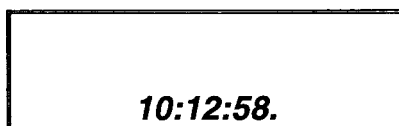

Fig 4.5 Setting the time
- (4) Press **YES**, and the time is displayed in hours, minutes and seconds (Fig 4.5).